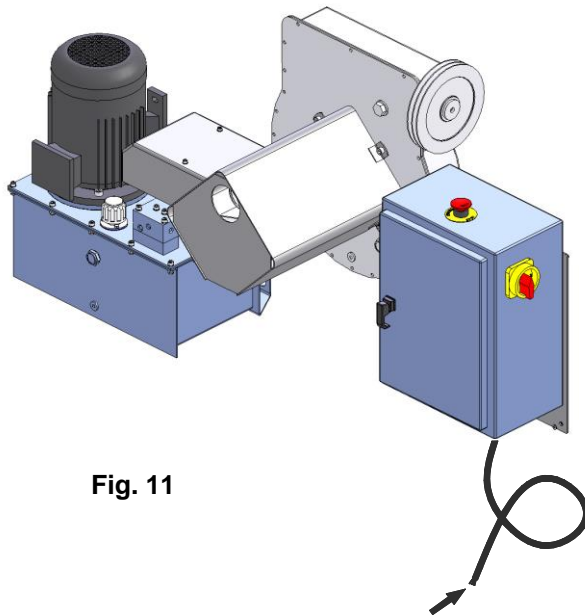
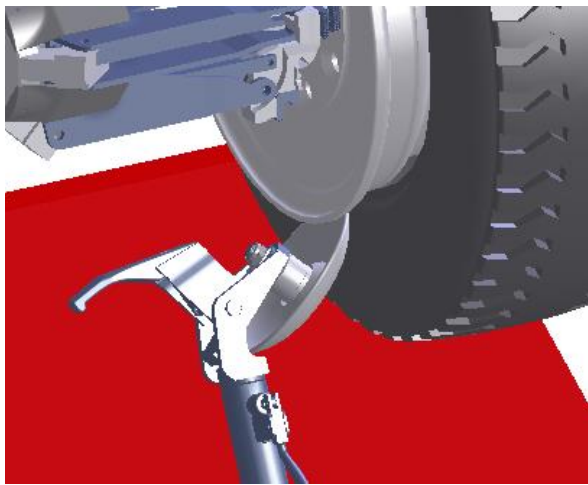

Fig. 11
Fig. 17
- The plug must have an earth terminal. ( Fig. 11 )
- To demount the back bead proceed as shown in Fig. 11 rotate the tool by 180°, insert it between the rim and the bead, move it against the rim flange and insert the lever ( Fig 17 ) and then rotate the spindle in clockwise direction until the operation is complete.